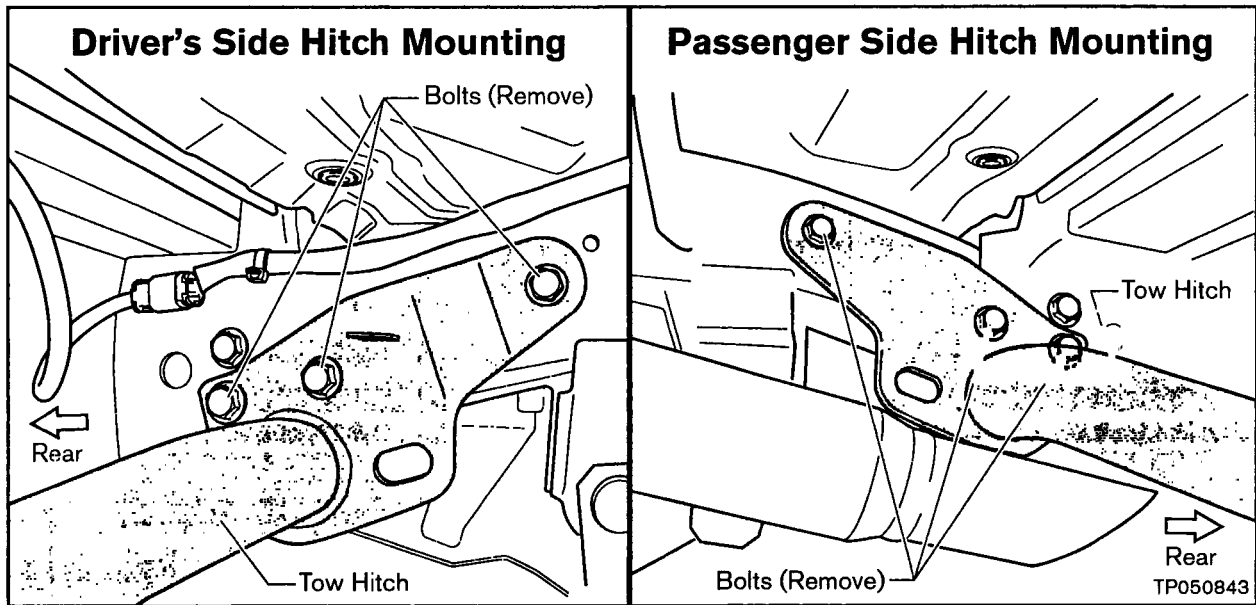

Figure A5
6. Remove the six Bolts that secure the Tow Hitch (see Figure A5).